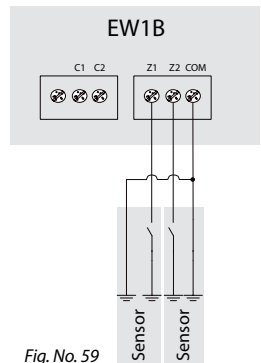

Fig. No. 59
5. Connect the circuit as indicated in Fig. No. 59.